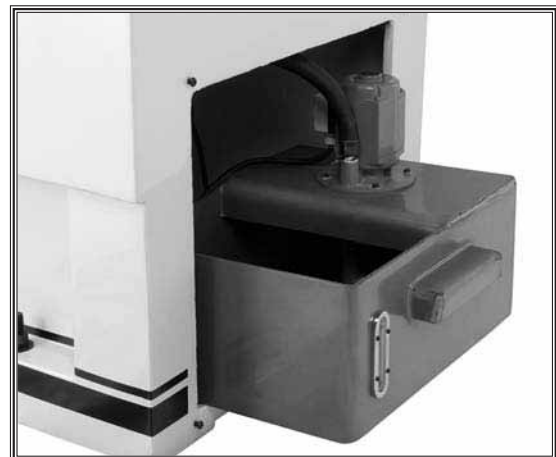

Figure 68. Coolant pump and reservoir.
1. Loosen the screws, lift out the pump access cover, and slide out the pump/reservoir (**Figure 68**).